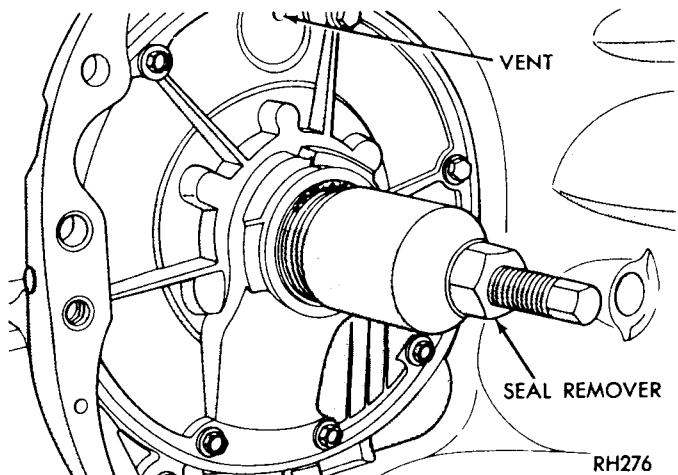

Fig. 3—Remove Pump Seal
- (7) Install pressure adjusting screw and bracket assembly on the springs and fasten with one screw for now. Use screw which goes into side of valve body. This screw is to be tightened first, after starting the top and bottom screws.
- (8) Install oil filter and tighten screws to 35 in. lbs. (4 N·m).
- (9) Install lock-up valve and spring, then install fail-safe spring and valve into the lock-up module (Fig. 3). Install lock-up module to transfer and separator plate assembly with three screws. (Install stiffener plate on nonlock-up valve body).
- (10) Insert lock-up solenoid nozzle (with O-ring) into bore in transfer plate and install retaining screw. Route lock-up solenoid wire between solenoid and limit valve housing cover, and underneath edge of oil filter. **Correct wire routing is VERY IMPORTANT. The wire must be routed away from the low-reverse band lever.**
(11) After valve body has been serviced and completely assembled, measure throttle and line pressure adjustments (see "Maintenance and Adjustments"). However, if pressures were satisfactory prior to disassembly, use original settings.
- (12) Install parking lock rod and "E" clip retainer to manual lever.
(1) **A-904T and A-999:** Screw seal remover Tool C-3981 into seal (Fig. 3), then tighten screw portion of tool to withdraw the seal.